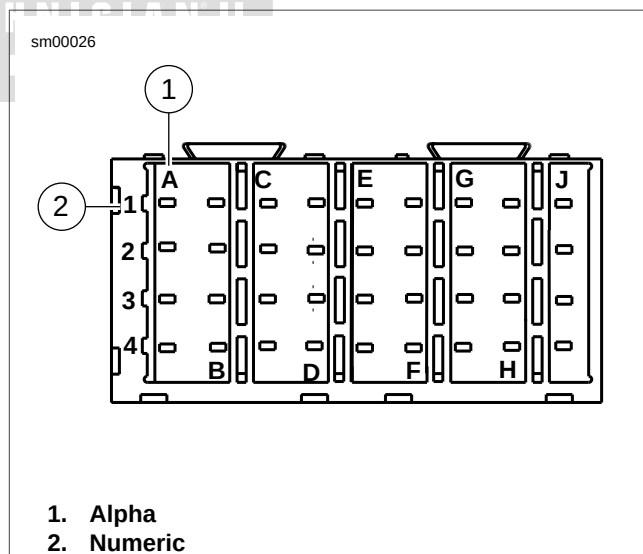

Figure A-40. Fuse Block: Coordinates (typical)
See Figure A-40. The main fuse block terminal cavity is identified as alpha (1) and numeric (2) coordinates. Refer to the main harness wiring diagram for fuse block terminal cavity coordinates.